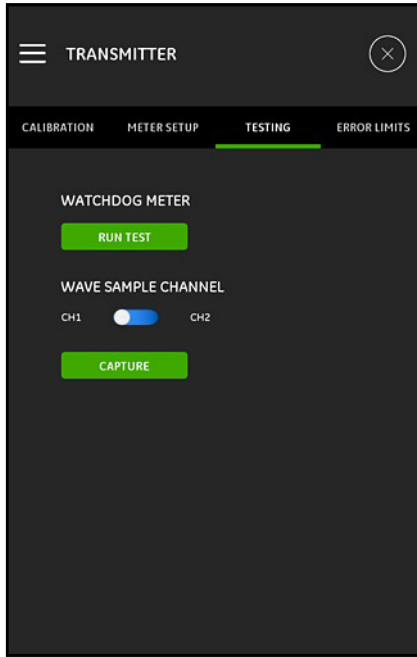

Figure 129: The TESTING Menu
The TESTING menu (see Figure 129 below) is used to ensure that the PT900 is performing properly. The following tests are included:
1. Click the RUN TEST button in the TESTING menu (see Figure 129 on page 127).